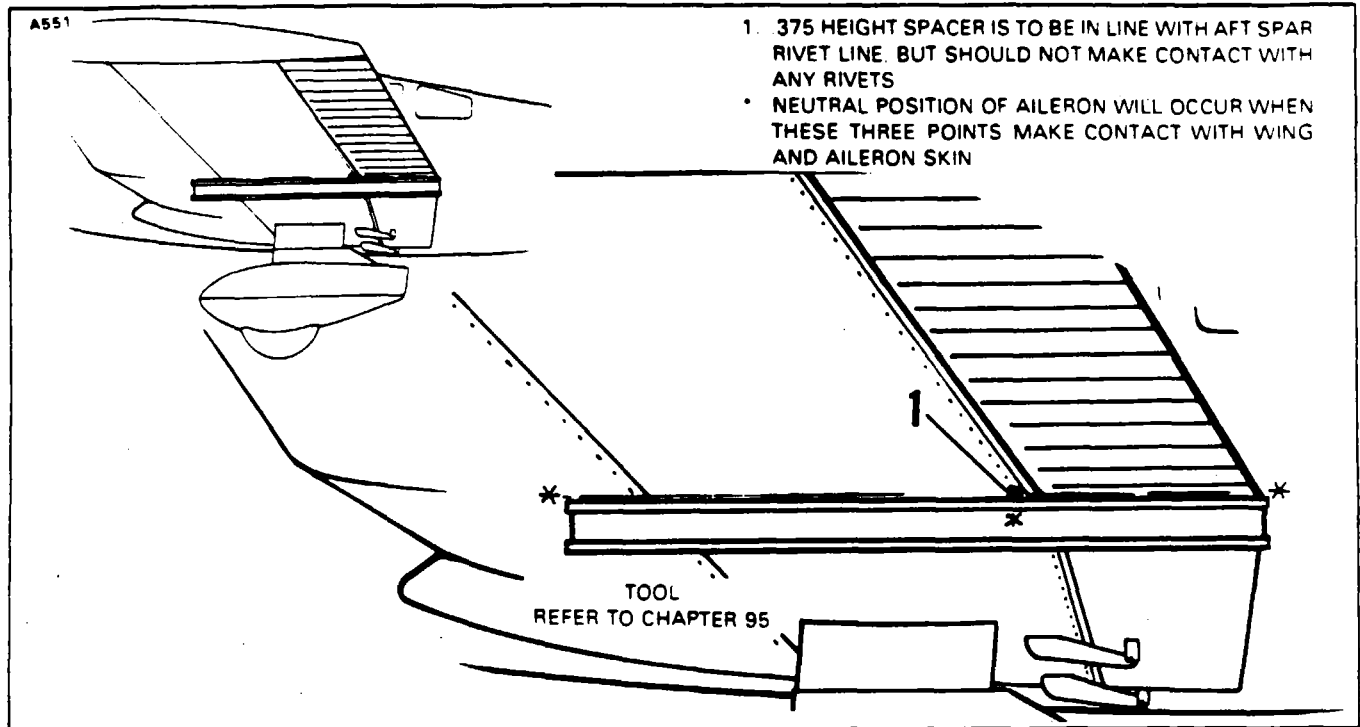

Figure 27-6. Aileron Rigging Tool
- B. Place an aileron rigging tool as shown in Figure 27-6 against the underside of the wing and aileron as close as possible to the inboard end of the aileron without contacting any rivets. The tool must be positioned paralleled with the wing ribs, with the aft end of the tool, even with the trailing edge of the aileron. (This tool may be fabricated from dimensions given in Chapter 95.)